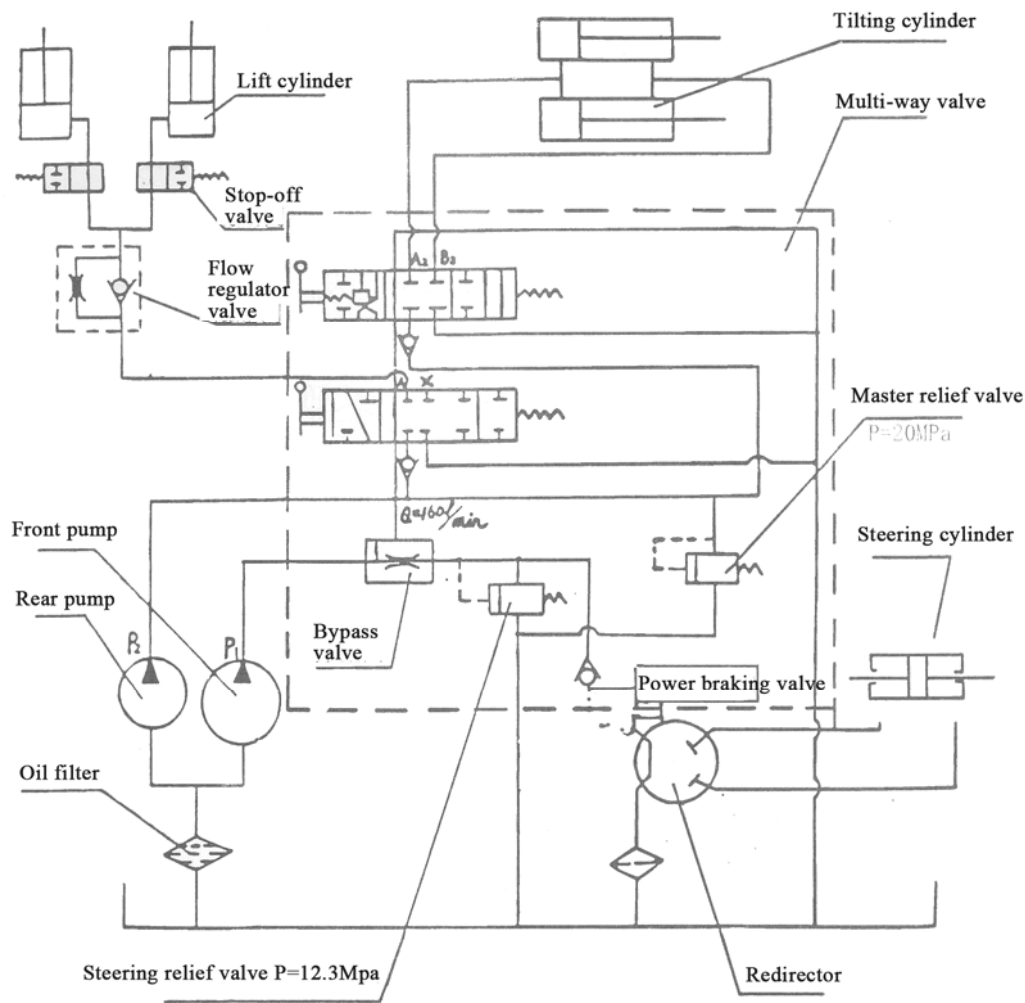

Fig 7.1 Diagram of Hydraulic System Principle
7. Hydraulic System (See Table 7.1 for main parameters, see Fig 7.1 for principle)